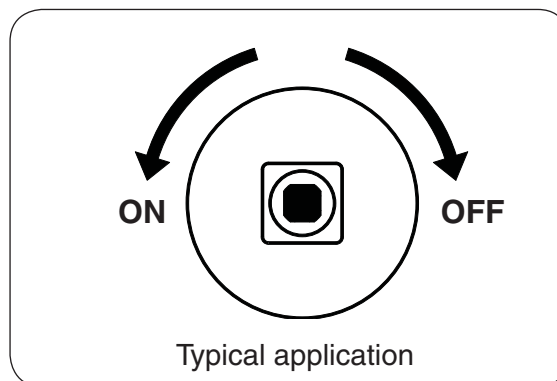

Fig. 14-2
4. **Once the match is burning and in position**, slowly turn the key valve counter-clockwise toward the **ON** position until it no longer rotates (see Fig. 14-2). Your burner should light.
**WARNING:** If the burner does not light within (5) seconds of turning on the key valve, immediately turn the key valve clockwise toward the **OFF** position until it no longer rotates.
**To extinguish your gas burner**, turn the key valve clockwise toward the **OFF** position until it no longer rotates (see Fig. 14-2). Be sure the key valve is turned fully off to avoid any gas leakage.